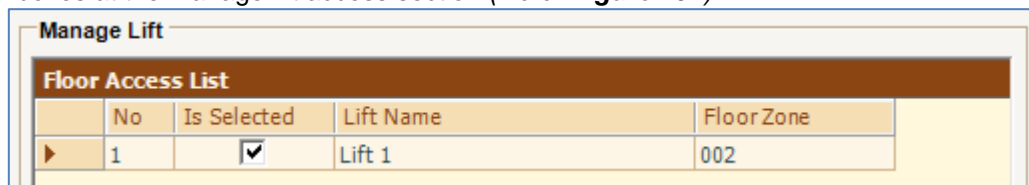

Figure 192 - Manage Lift
- Specify the code and description. Choose the lift name for the floor access by clicking on the checkboxes at the manage lift access section (Refer **Figure 192**).